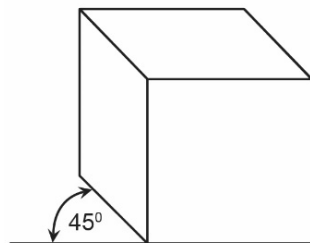

Figure 1
2. The cube shown in **Figure 1** has been drawn in _____ projection.